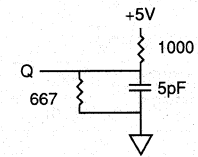

Fig. 2 OUTPUT LOAD EQUIVALENT
6. ¹HZCS, ¹HZOE, and ¹HZWE are specified with CL = 5pF as in Fig. 2. Transition is measured ± 500mV from steady state voltage.